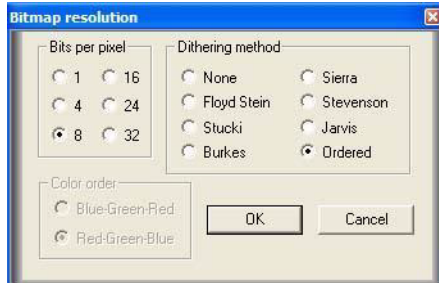

Figure 99
- 2 Using the **Change Resolution** tool, click on the image. When you do, the **Bitmap resolution** window opens to display information about the image. See figure 99.